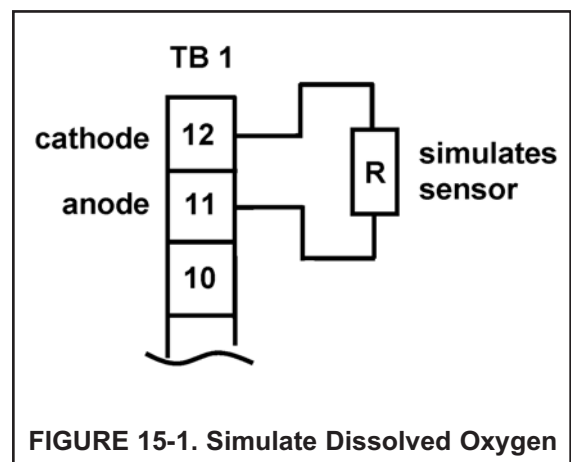

FIGURE 15-1. Simulate Dissolved Oxygen
- A. Disconnect the anode and cathode leads from terminals 11 and 12 on TB1 and connect a decade box as shown in Figure 15-1. It is not necessary to disconnect the RTD leads.